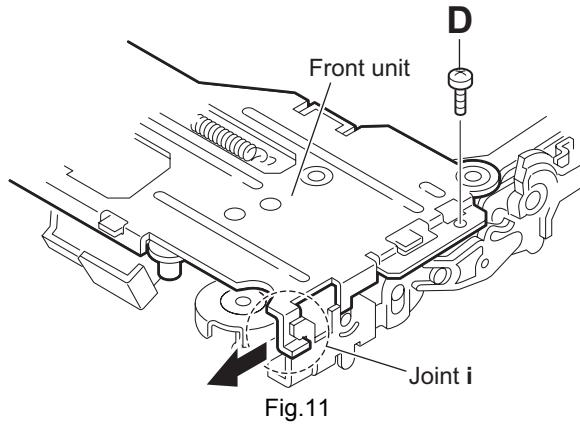

Fig.11
- (2) From the top of the mechanism section, remove the screw **D** attaching the front unit. (See Fig.11)
- (3) Move the front unit toward the front to release joint **i**. (See Fig.11)